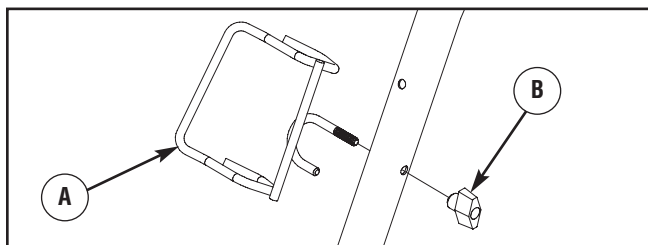

Figure 5 — Attach Wireform to Handle
4. Insert spray gun holder wireform (A) through hole on left side of handle (viewing from front of unit). Hold wireform in place and attach a plastic knob (B) from inside of unit. Tighten by hand (see Figure 5).